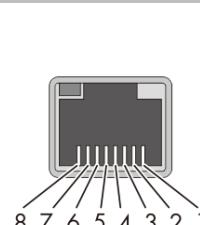

Fig. 35. Cable pin assignment
2. Strip the insulation from the network cable and crimp copper wire to the corresponding terminal (in accordance with DIN 46228-4, provided by the customer) of the standard network connector (RJ45) (see Fig. 35).